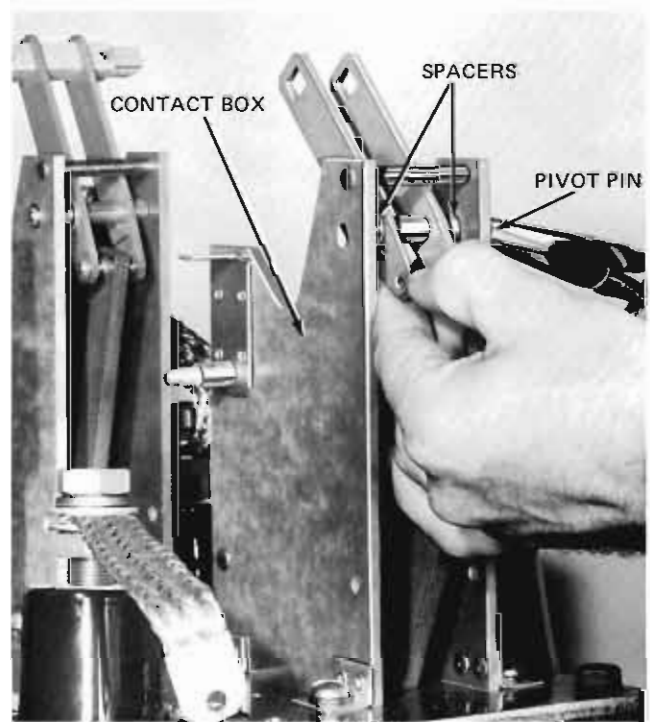

Figure 13
6. Remove C ring and flat washer from one end of pivot pin and withdraw pin as shown in Figure 13. A spacer on either side of the contact art will also be released. Lift out contact arm.